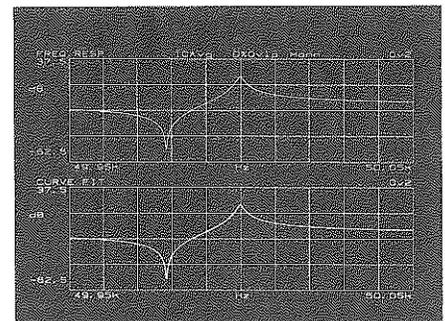

Figure 9-1
12. **View Results** When the curve fit is completed, the message "Fit Complete" is displayed. The display will appear as shown in Figure 9-1; trace A shows the original measurement and trace B the curve fit result.